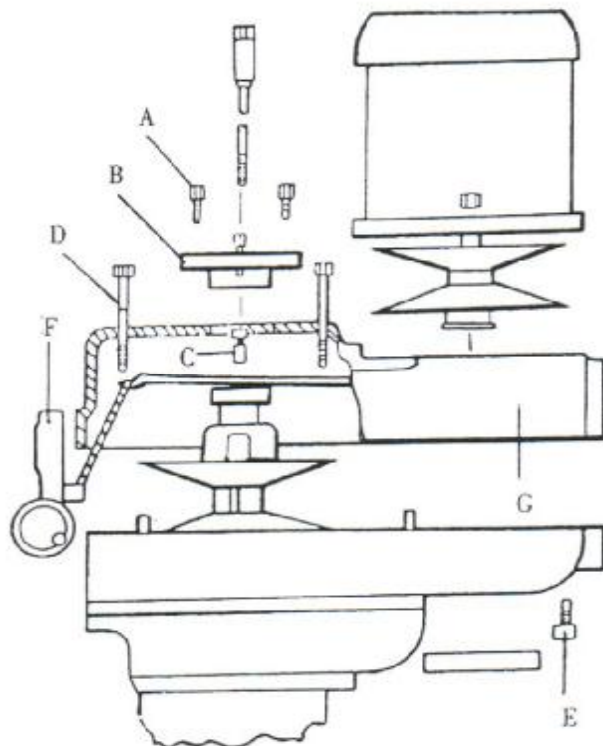

Figure 11. Removing the Vari - Drive Belt
CHANGING VARI- DRIVE BELT (Figure 11)
Complete the above procedures for removing the motor, then remove the three screws (# 1 page 38) (A, Figure 11) and lift out the top bearing cap move two socket head cap screws (# 17 page 38) and sleeves (# 19 page 38) (C). Next, remove the four screws (# 6 page 38) (D) and the screw (# 55 page 38) (E) holding the belt housing (G) to the base (# 53 page 38). Unscrew and remove the two lower screws (# 25 page 36) in the speed changer bracket just below the speed dial (# 2 page 36) (F).